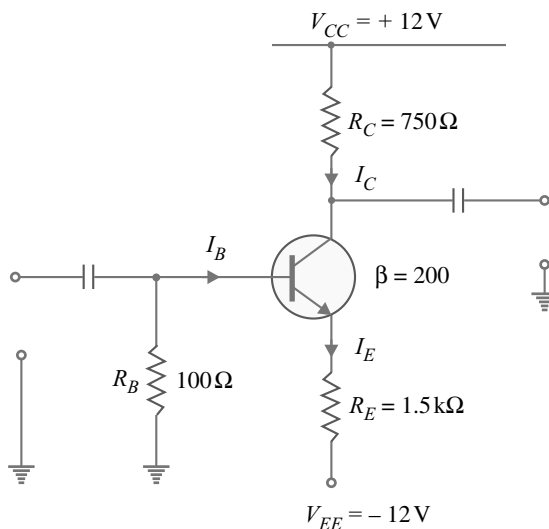

Fig. 6.57
**Example 6.39.** Determine the values of  $V_{CE(\text{off})}$  and  $I_{C(\text{sat})}$  for the circuit shown in Fig. 6.57.
**Solution.** Applying Kirchhoff's voltage law to the collector side of the circuit in Fig. 6.57, we have,